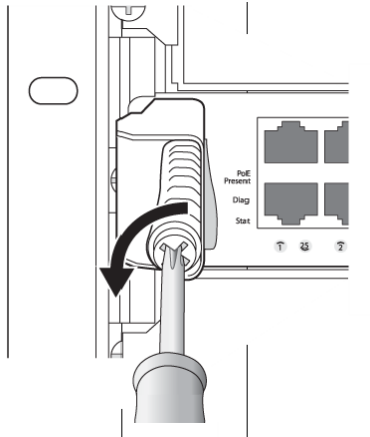

Figure 36. Unlocking a module
2. To unlock the module, turn each captive screw counter-clockwise (**Figure 36**). Verify that the yellow band around the captive screw head of each injector/ejector handle is completely visible (**Figure 36**). This position ensures that the module is unlocked.